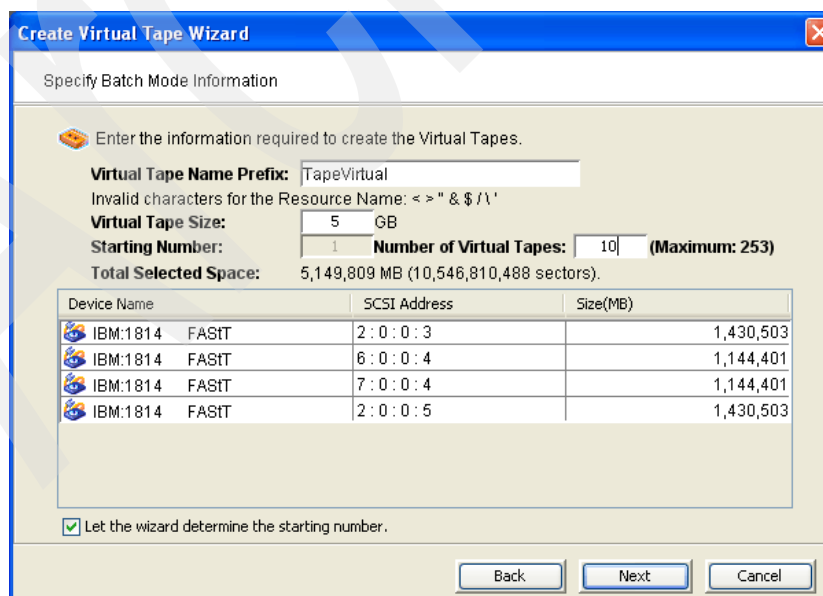

Figure 6-81 Specify tape creation requirements
- You then enter the virtual tape prefix name, size of the starting increment and the number of tapes. The relative starting number for the tape barcode is set by the wizard unless you uncheck the box for **Let the wizard determine the starting number** (Figure 6-81).